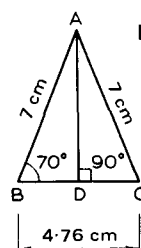

Fig. 1.73
**Example.** For the triangle shown in Fig. 1.73 find